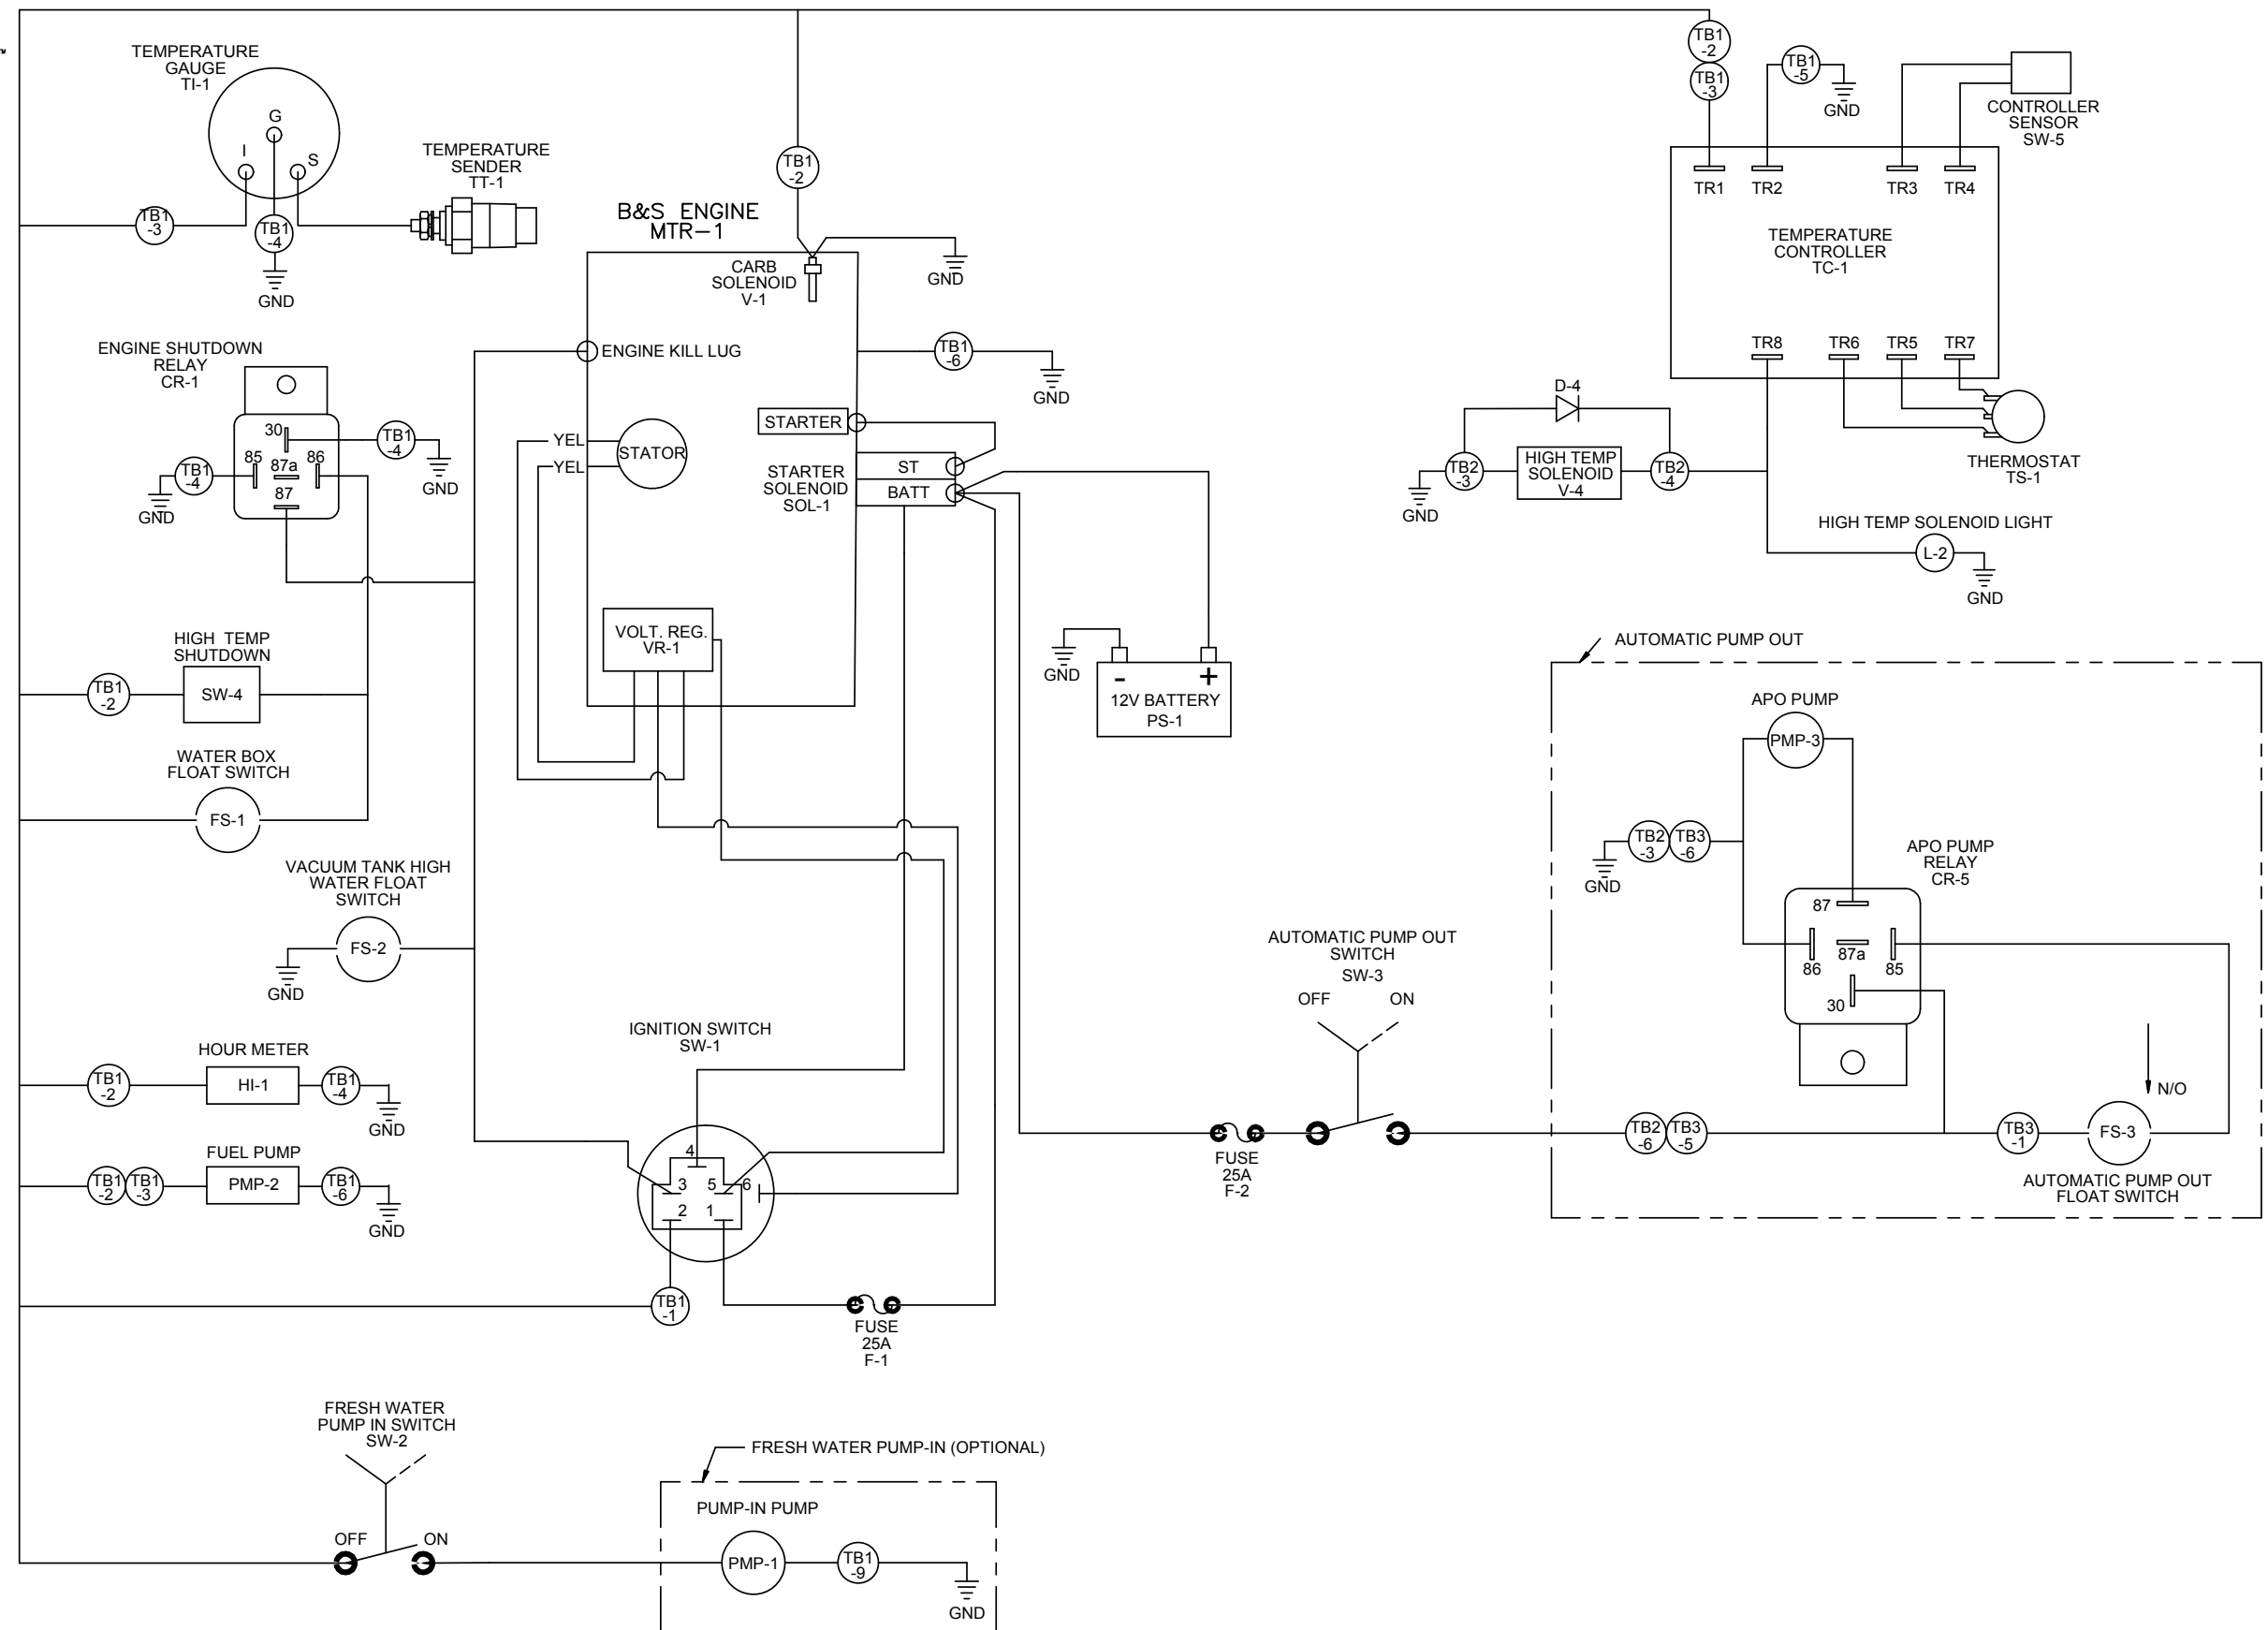

Figure 7-2. Wiring Diagram - View 1 of 3
- Wiring Diagram (Figure 7-2 - Figure 7-4)